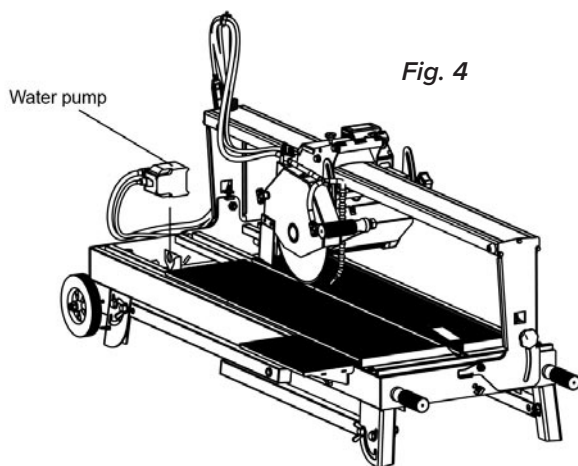

Fig. 4
2. Place the water pump into the bracket at the corner of the water tray. (see figure 4)